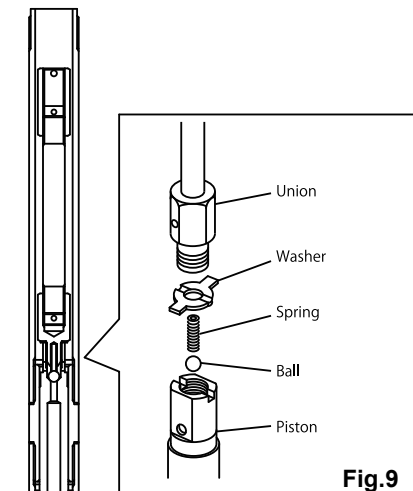

Fig.9
- 8) Set a pipe wrench on notched part of the suction tube and unscrew it. The piston valve assembly can be removed. (Fig. 9)
- 9) Flatten the bending part of the washer that fixes the union and the piston. Separate the union and the piston with a spanner, and then remove the ball and the spring. (Fig. 9)